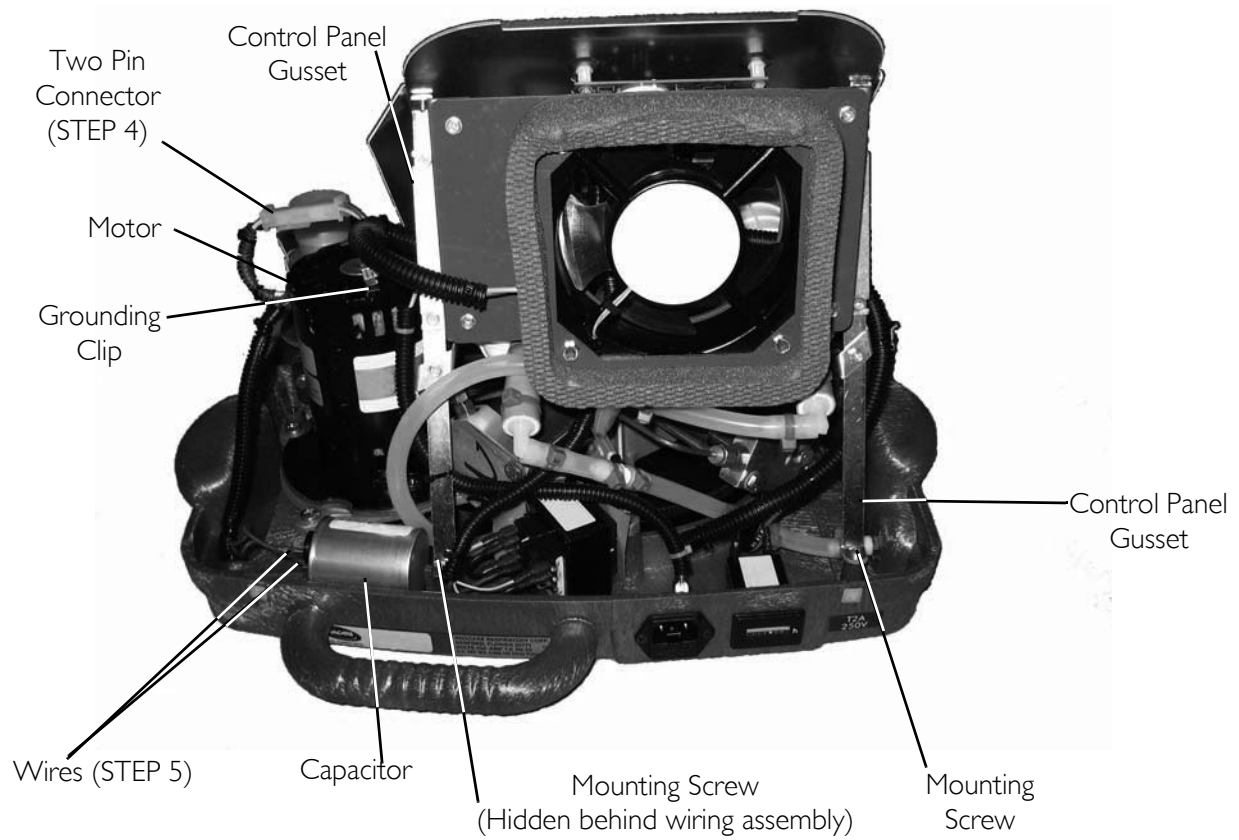
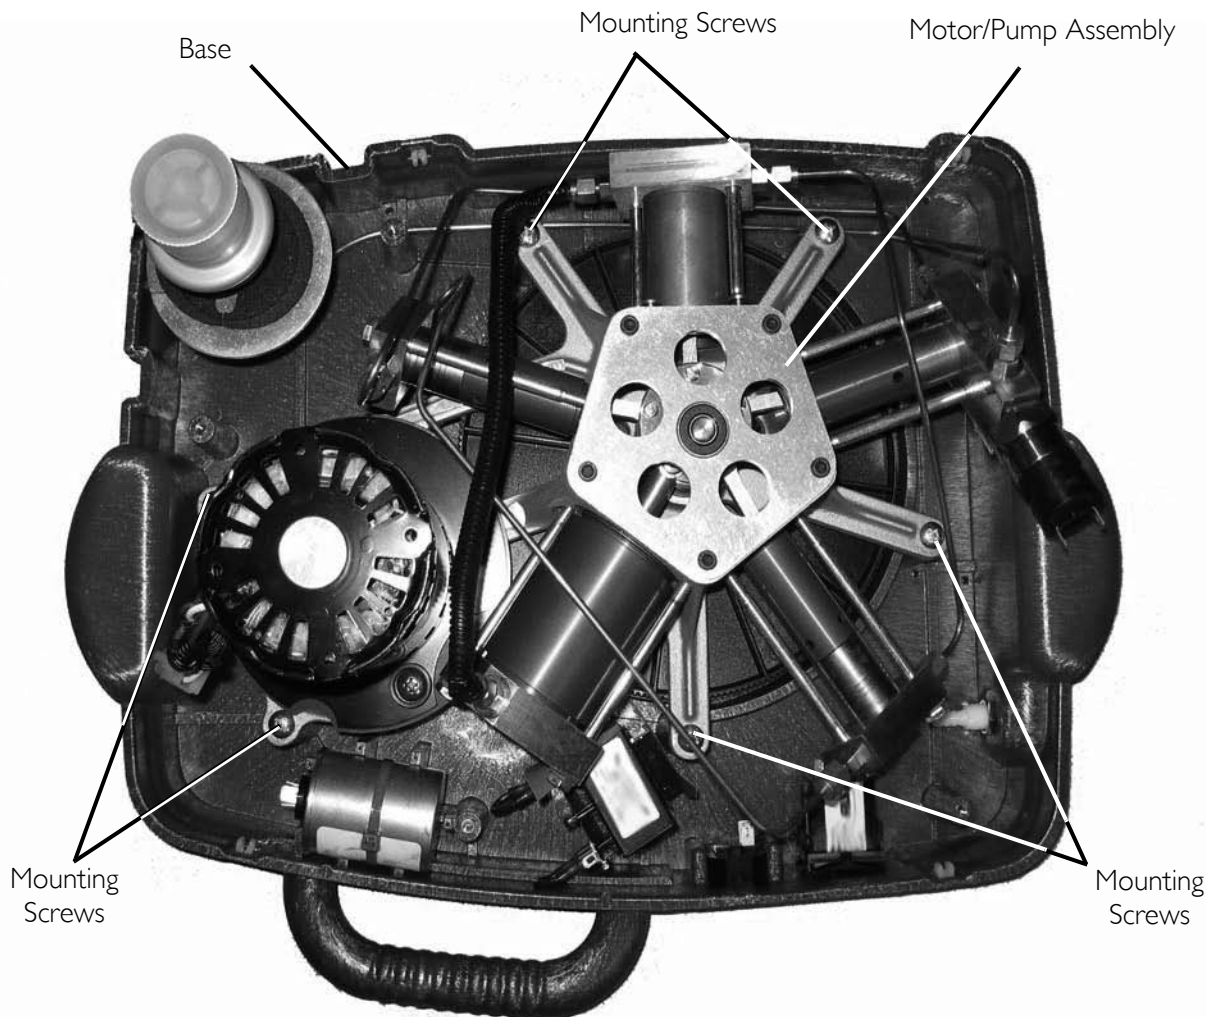

FIGURE 10.1 Compressor Replacement - HomeFill Units Manufactured Before 8/1/05
FIGURE 10.5 Compressor Replacement - HomeFill Units Manufactured Before 8/1/05
NOTE: For this procedure, refer to FIGURE 10.1 through FIGURE 10.5.
5. Disconnect the two pin connector that connects the motor to the wiring harness (FIGURE 10.1).
6. Using needle nose pliers, disconnect the two wires from the capacitor (FIGURE 10.1).
7. Using needle nose pliers, disconnect the grounding clip from the motor (FIGURE 10.1).
11. Remove the two screws that secure the control panel gussets to the rear of the base assembly (FIGURE 10.1).
23. Remove the six mounting screws that secure the compressor/motor assembly to the base (FIGURE 10.5).
1. Position the motor/pump assembly on the base (FIGURE 10.5).
2. Secure the motor/pump assembly to the base with six mounting screws. Torque mounting screws to 25-30 in-lbs (2.82-3.39 Nm) (FIGURE 10.5).
12. Secure the control panel gussets to the rear of the base assembly with two mounting screws (FIGURE 10.1).
16. Connect the grounding clip to the motor (FIGURE 10.1).
17. Connect the two wires to the capacitor (FIGURE 10.1).
18. Connect the two pin connector that connects the motor to the wiring harness (FIGURE 10.1).